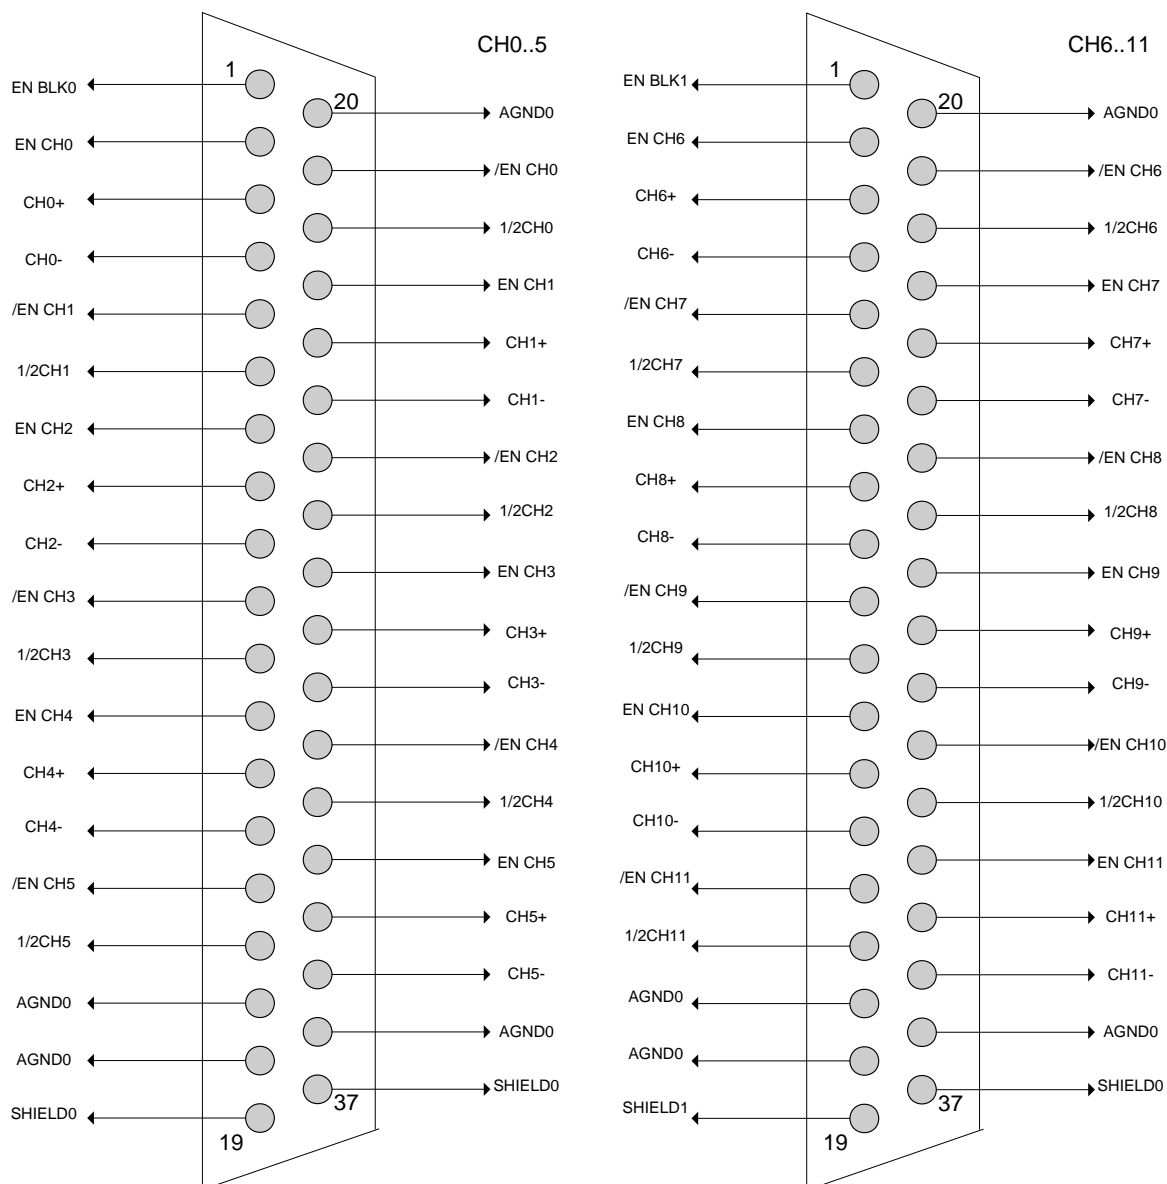

Fig. 4.3 – Mod. A 1512 front panel connectors pin assignment
- *ENMODE0*: if ENCHx and /ENCHx front connector pins (see Fig. 4.3) are not connected, x channel is enabled; if ENCHx and /ENCHx pins are short circuited, channel x is disabled